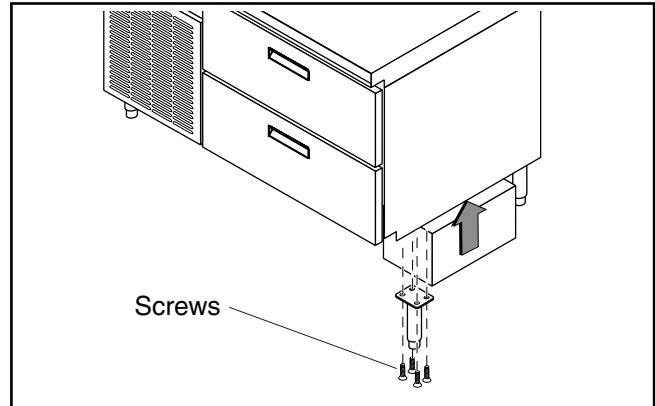

Figure 16. Leg Removal
4. Tag and disconnect the wiring harness from the electric I/O control board (Figure 16).
1. Place a jack underneath the refrigeration unit as close as possible to the leg (Figure 16). Lift the unit just high enough to remove the leg from underneath the refrigeration unit. Place blocking underneath the unit to prevent the unit from falling during removal of the leg.